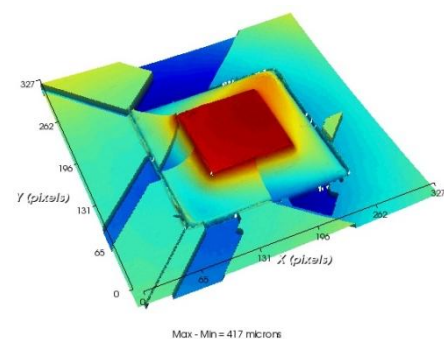

Figure 5.3 Discontinuity Errors in Displacement Data
- Discontinuities exist in the calculated displacement data. (**Figure 5.3**)
displacement surface (**Figure 5.3**). For shadow moiré, abrupt implies adjacent pixels with a height difference greater than half the fringe value, e.g. greater than 0.005" (0.127 mm) for a 100 line per inch grating or 0.0017" (0.043 mm) for a 300 lpi grating.